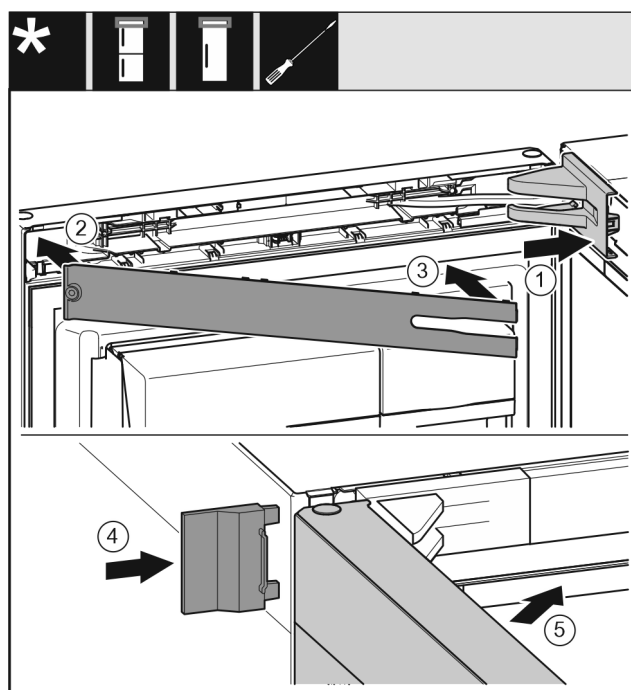

Fig. 51
- ▶ Position the swap bearing block cover Fig. 51 (1) and snap it in. You may need to push it carefully apart.
- ▶ Attach the cover Fig. 51 (2).
- ▶ Cover Fig. 51 (3)
- ▶ Slide on the outer cover Fig. 51 (4).
- ▶ Close the top door Fig. 51 (5).